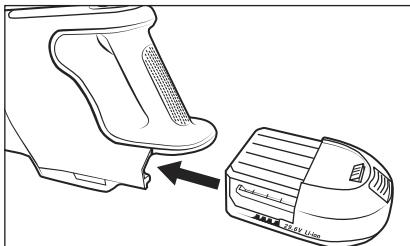

Fig. 3
- Push the battery 2 into the appliance until it audibly clicks into place (see Fig. 3).